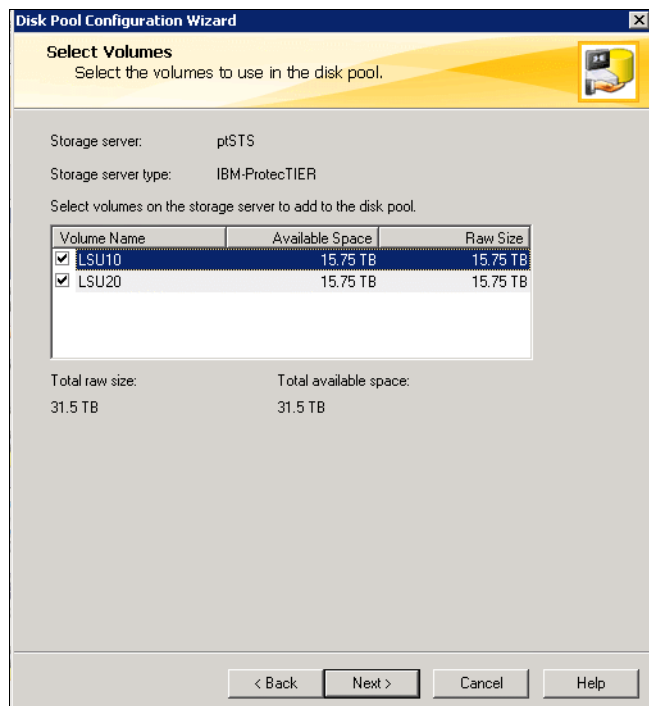

Figure 9-26 Select Volumes window
- In the Select Volumes window, (Figure 9-26), you define the LSU in the ProtecTIER server. Select the LSUs to use for backup storage by selecting the LSUs' check boxes and then click **Next**.